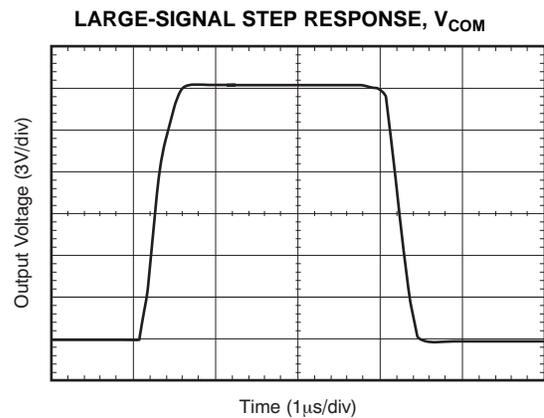

Figure 12.
(1) The BUF08832 V_{COM} DAC limits can be programmed. These default limits apply if the device is not programmed. See the Programmable V_{COM} Limit Section.
(2) See Figure 12, *Large-Signal Step Response, V_{COM}* .